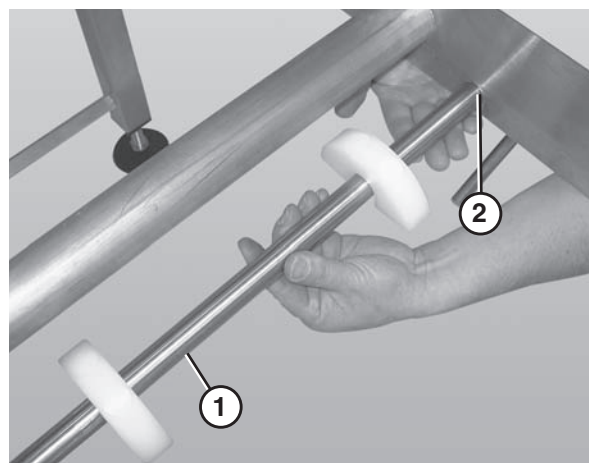

Figure 43
2. Slide the return shaft (**Figure 43, item 1**) up and through the large slot (**Figure 43, item 2**) in the frame (picture shown without the belt or wear strips).
3. Push up on the return shaft (**Figure 43, item 1**) and slide the notched end of the shaft through the small slot on the opposite side of the frame.